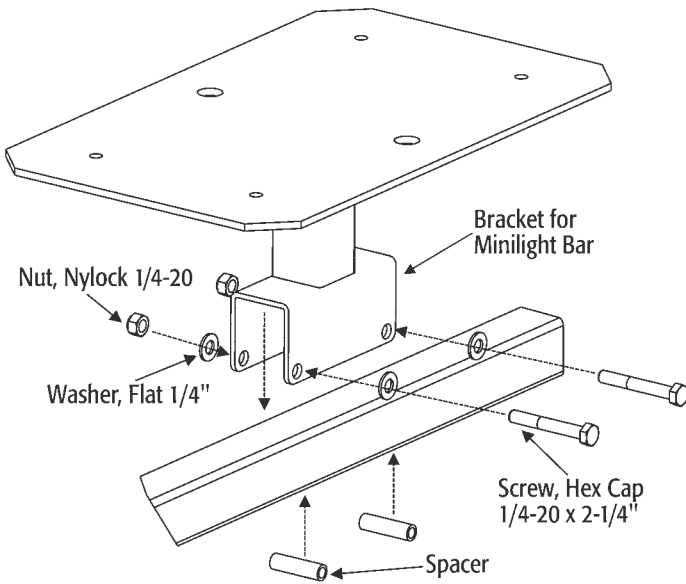

Fig. 4
2. Install all hardware *as shown in Fig.4*. Make sure to place spacers into opening of U-shaped base to prevent collapsing of this part.